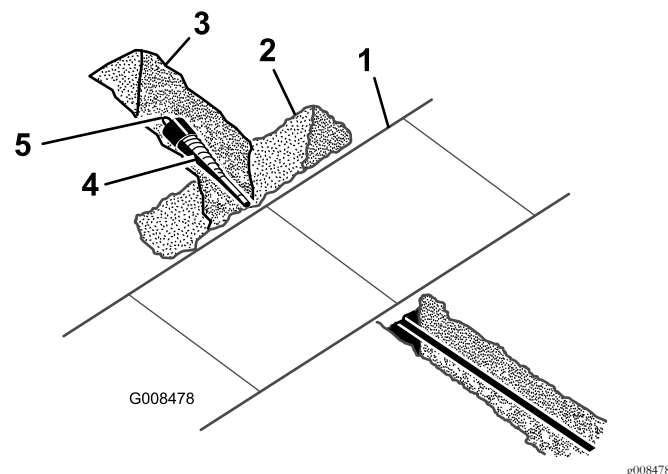

Figure 6
2. Remove the boring bit and attach the reamer (Figure 6).
3. Attach the cable or piping being installed to the swivel on the end of the reamer (Figure 6).
1. With a shovel, carefully dig around the boring bit, clearing it of soil until it can be removed (Figure 6).